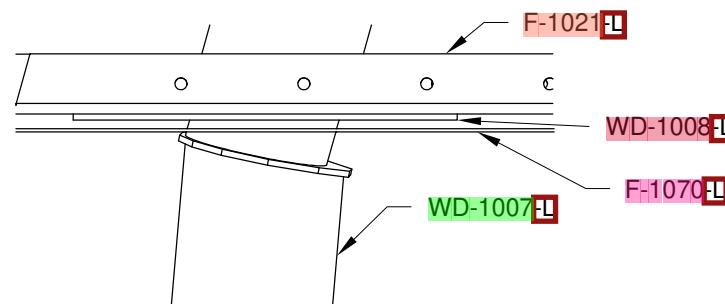

FIGURE 1: SETTING THE STEP SPANWISE POSITION
Step 1: Adjust the spanwise position of the **WD-1007-L** Step so the weld at the top of the step is flush with the **F-1070-L** Mid Side Skin as shown in Figure 1.